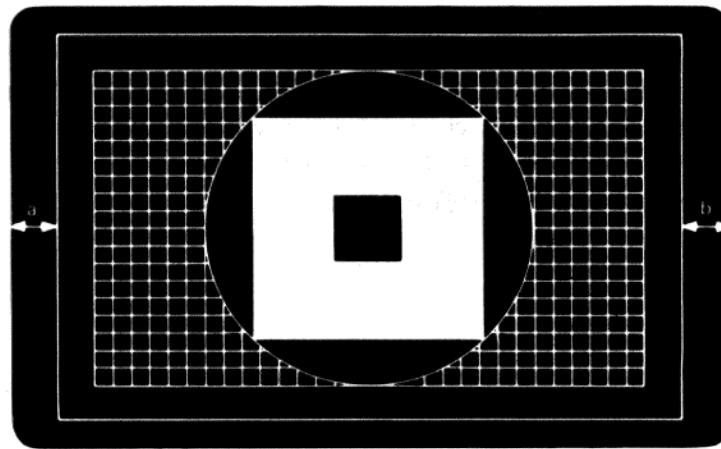

Figure 4-11 Horizontal Centering
1. Measure the distance between the center left edge of the alignment pattern and the monitor bezel (Figure 4-11). Use the scale on the template for the measurement. Make a note of the measurement.